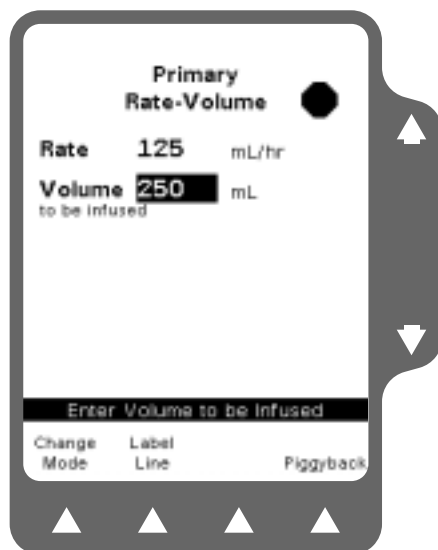

Figure 3-25 Press START
3. The primary infusion can be started by pressing the **Primary** soft key, then pressing the **START** key (Figure 3-25).